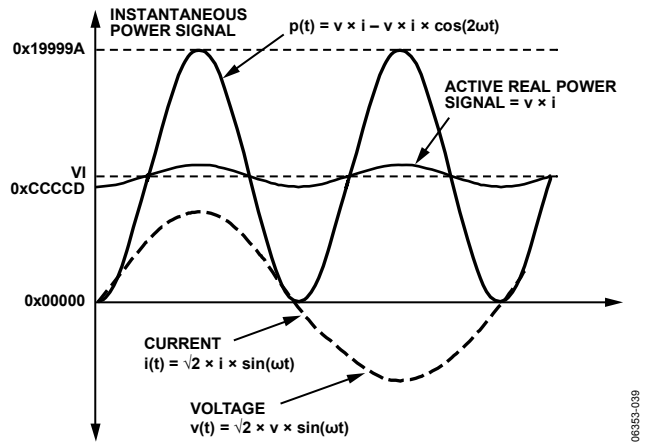

Figure 63. Active Power Calculation
Note that the active power is equal to the dc component of the instantaneous power signal  $p(t)$  in Equation 11, that is,  $VI$ . This is the relationship used to calculate active power in the ADE7566/ADE7569/ADE7166/ADE7169. The instantaneous power signal  $p(t)$  is generated by multiplying the current and voltage signals. The dc component of the instantaneous power signal is then extracted by LPF2 (low-pass filter) to obtain the active power information. This process is illustrated in Figure 63.
The ADE7566/ADE7569/ADE7166/ADE7169 also incorporate an active power offset register (WATTOS[15:0]). It is a signed, twos complement, 16-bit register that can be used to remove offsets in the active power calculation (see Figure 63). An offset can exist in the power calculation due to crosstalk between channels on the PCB or in the IC itself. The offset calibration allows the contents of the active power register to be maintained at 0 when no power is being consumed.
As mentioned in the Active Energy Calculation section, the discrete time sample period (T) for the accumulation register is 1.22 μs (5/CLKIN). With full-scale sinusoidal signals on the analog inputs and the WGAIN register set to 0x000, the average word value from each LPF2 is 0xCCCCD (see Figure 63). The maximum positive value that can be stored in the internal 49-bit register is 248 (or 0xFFFF,FFFF,FFFF) before it overflows. The integration time under these conditions when WDIV = 0 is calculated in the following equation: